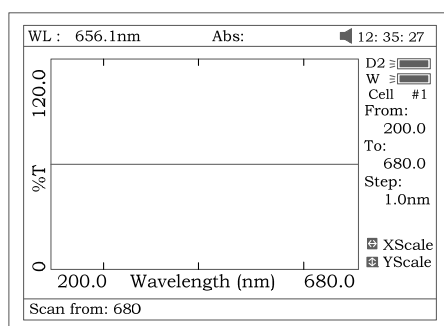

Fig 42
1. Press [**F1**] to setup, input the start wavelength, and end wavelength by pressing the numeric keypad (Fig 42).